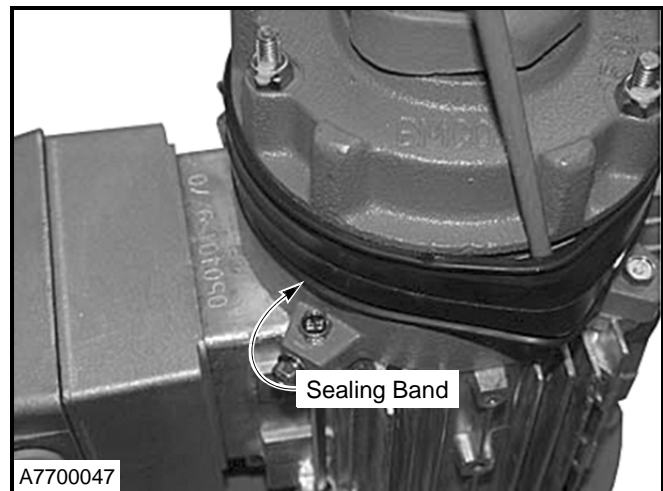

Figure 39
3. Remove sealing band. (See Figure 39)